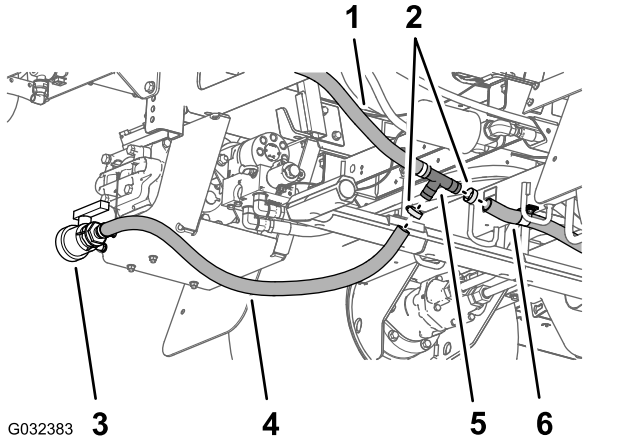

Figure 52
- Remove the hose clamps that secure the drain-valve hose and the rear tank-drain hose to the barbed T-fitting (Figure 52).